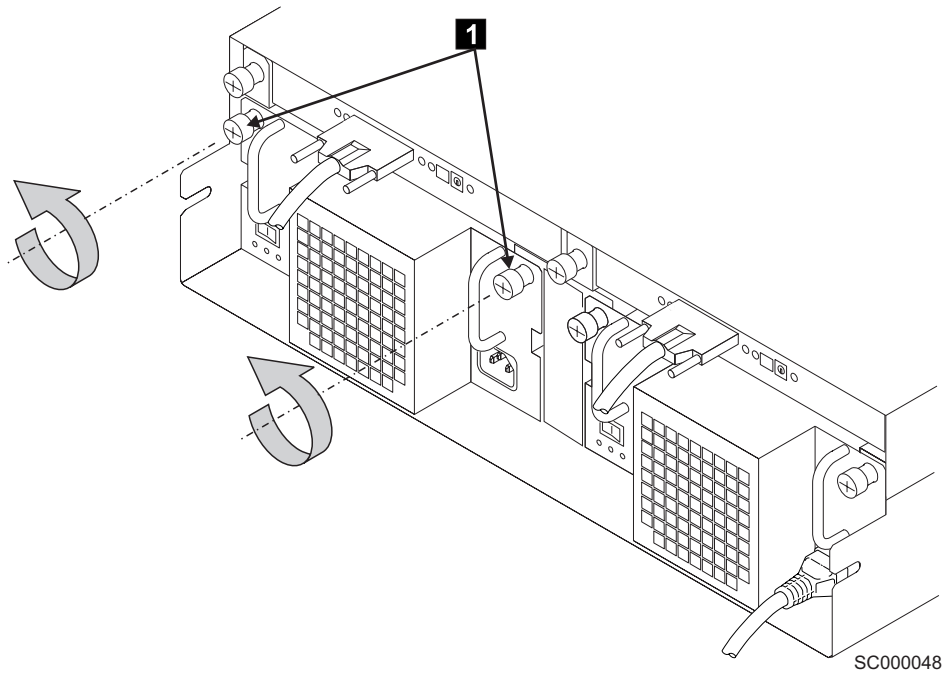

Figure 58. Unscrewing the thumbscrews
7. Unscrew the two thumbscrews **1** on the fan-and-power-supply assembly, as Figure 58 shows.